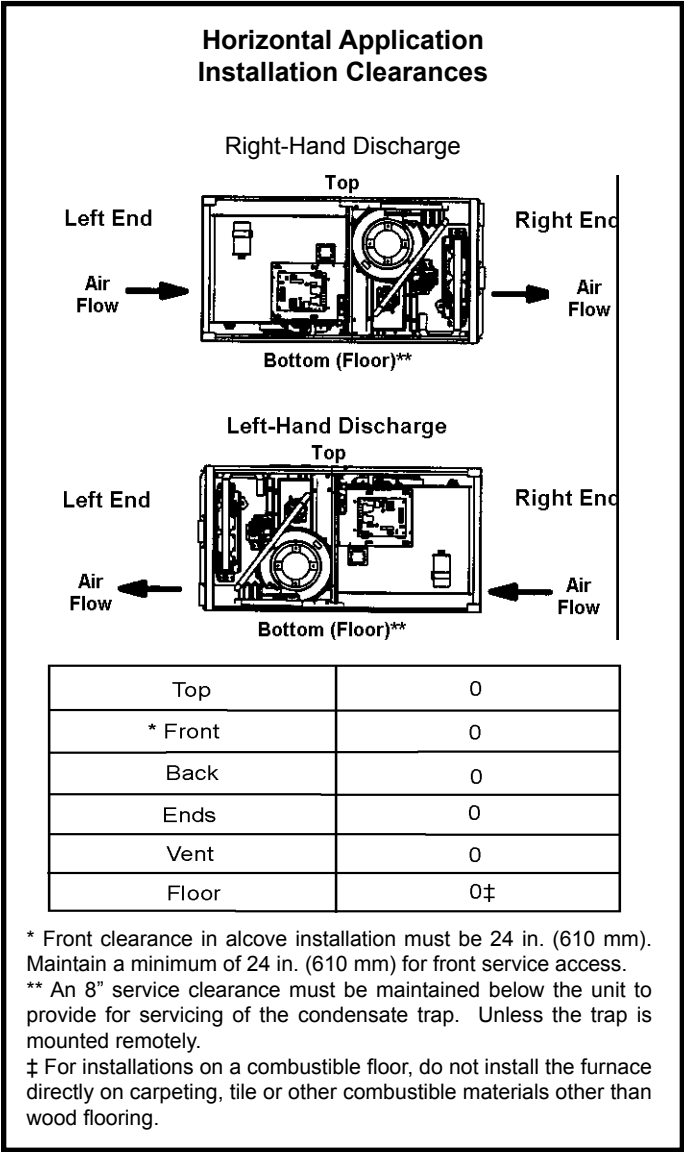

Figure 11
Refer to Figure 11 for clearances in horizontal applications.
1. Select location for unit keeping in mind service and other necessary clearances. See Figure 11.